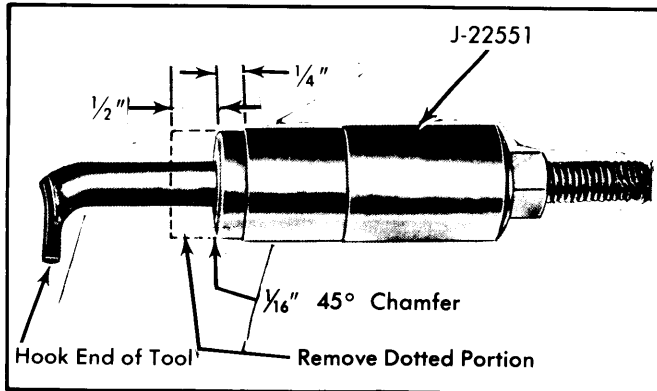

Fig. 11 Reworked Shift Tube Removal Tool
7) Rework a shift tube removing tool (J-22551) by removing $\frac{1}{2}$ " from pilot end of tool as shown in Fig. 11. Remove shift tube assembly using reworked tool as follows: Insert hooked end of tool into notch in shift tube just below shift lever housing key. Pilot sleeve over threaded end of tool and into upper